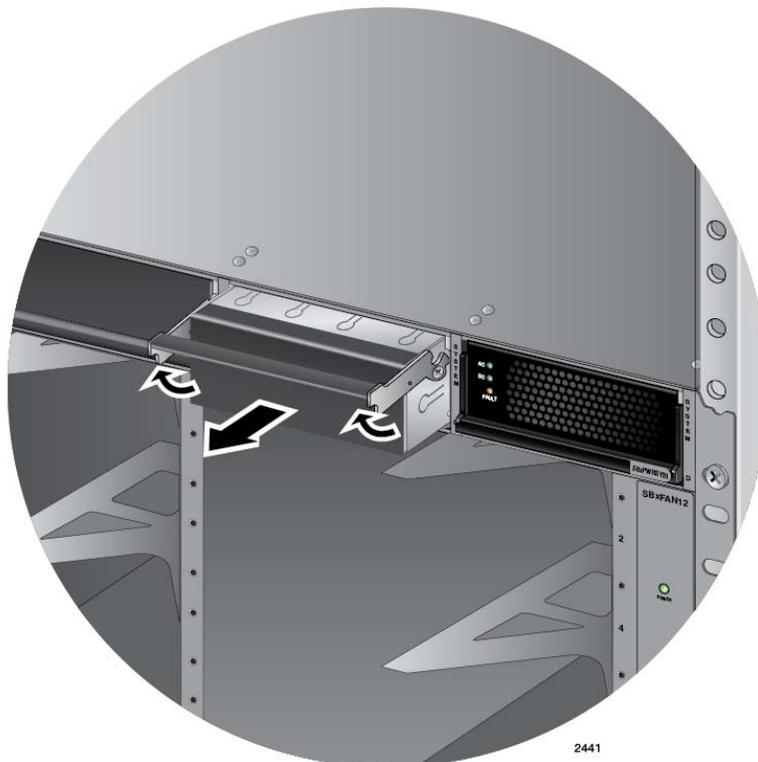

Figure 47. Removing the Blank Slot Cover from Power Supply Slot C
2. If the chassis already has a power supply in slot D, remove the blank power supply panel from slot C by lifting the blank panel handle and sliding it out of the slot, as shown in Figure 47.